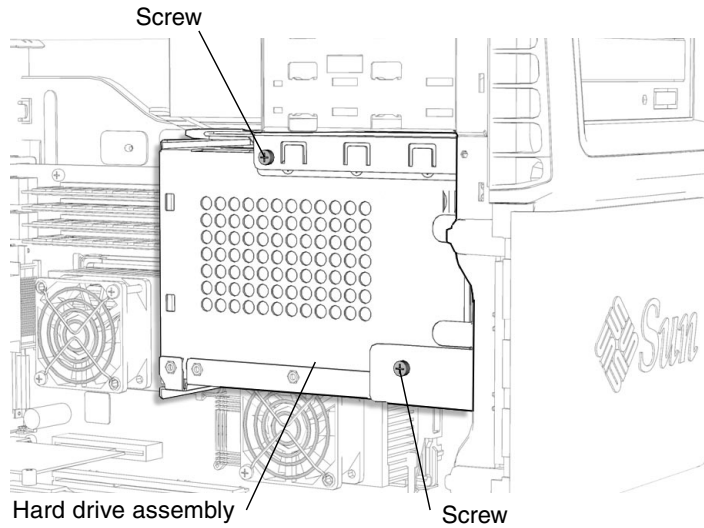

FIGURE 14-11 Removing the Two Hard Drive Assembly Screws
- a. Remove the two screws (FIGURE 14-11).